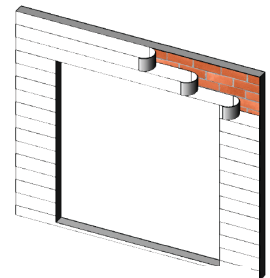

Figure 16:
4. Weather resistant building paper should be applied in a weatherboard fashion to complete the installation (Figure 16).